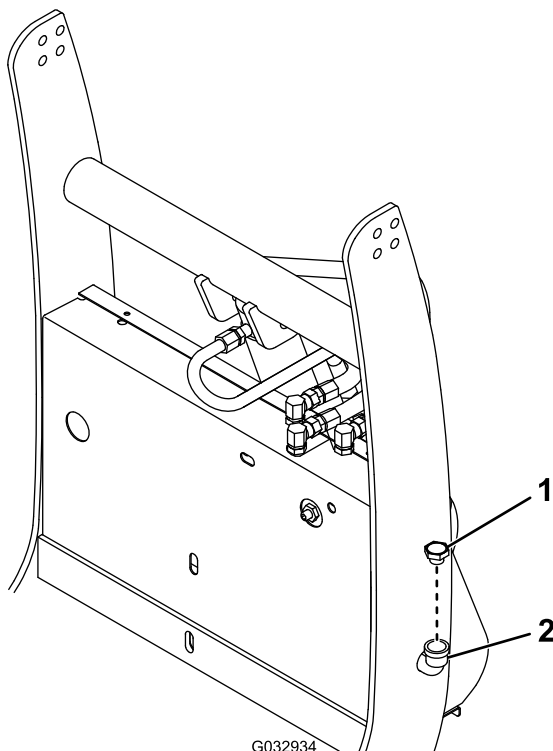

Figure 16
3. Remove the fill cap from the hydraulic reservoir (Figure 16).